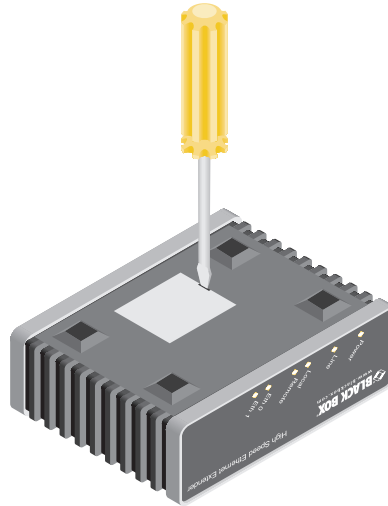

Figure 5. Removing protective cover
1. Using a small flat-tip screwdriver, remove the protective cover located on the underside of the LB200A-R4 (see Figure 5).